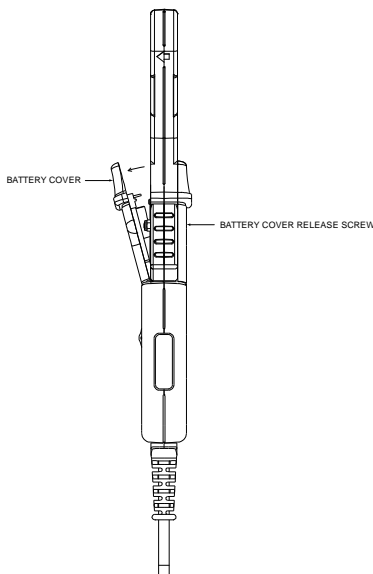

Figure 9
The **RED LED** flashes when the minimum operating voltage is approached, indicating that the battery needs to be replaced (refer to Figure 9). When replacing the battery, use the 9-volt alkaline (PP3/MN1604) type only. Using any other type of battery in the Snap-on Low Amp Current Probe will invalidate your warranty.
5. Lift the cover through 30° and pull it clear of the probe body as shown in Figure 9. The battery is then accessible.